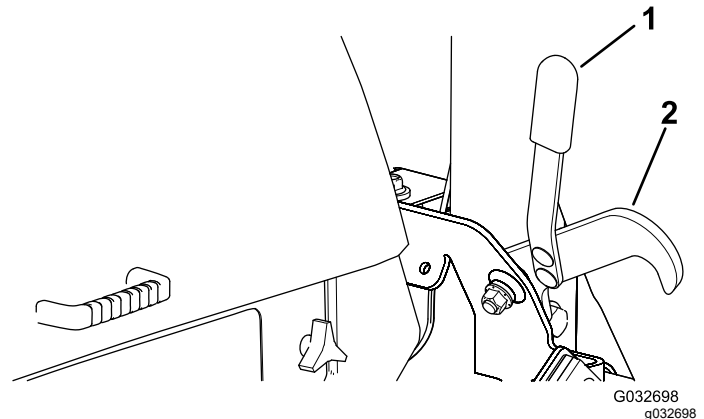

Figure 31
2. While sitting in the operator's seat, turn the ignition key to the RUN position (Figure 31).